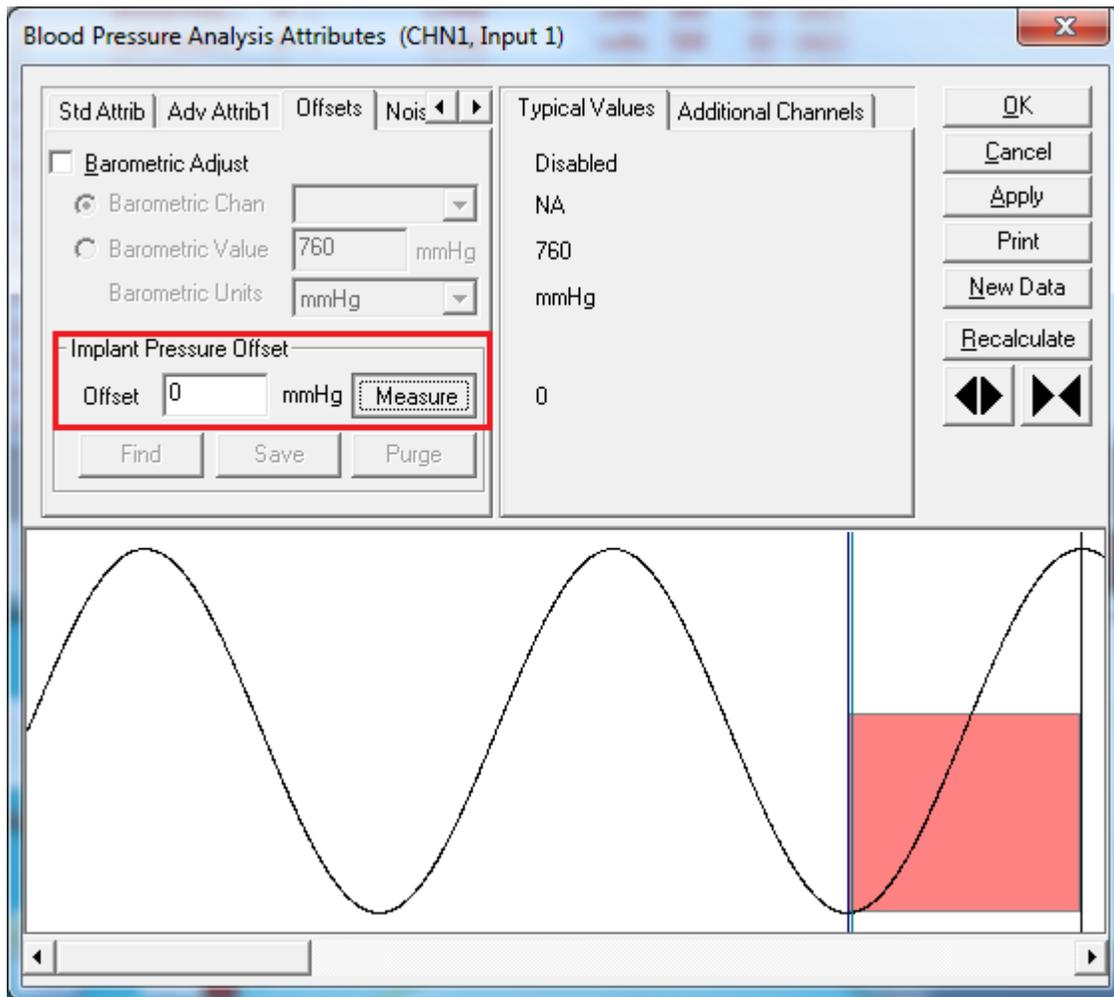

Figure 1: Offset Measure
2. In the BP Analysis Attributes window, go to the Offsets tab. At the bottom there is a text box for the offset. Click the 'Measure' button next to it (Figure 1), and Ponemah will automatically input the offset. The offset can also be manually entered here instead.
2. In the BP Analysis Attributes window, go to the Offsets tab. At the bottom there is a text box for the offset. Manually enter the offset (refer to Figure 1) that was recorded onto the lab sheet earlier.